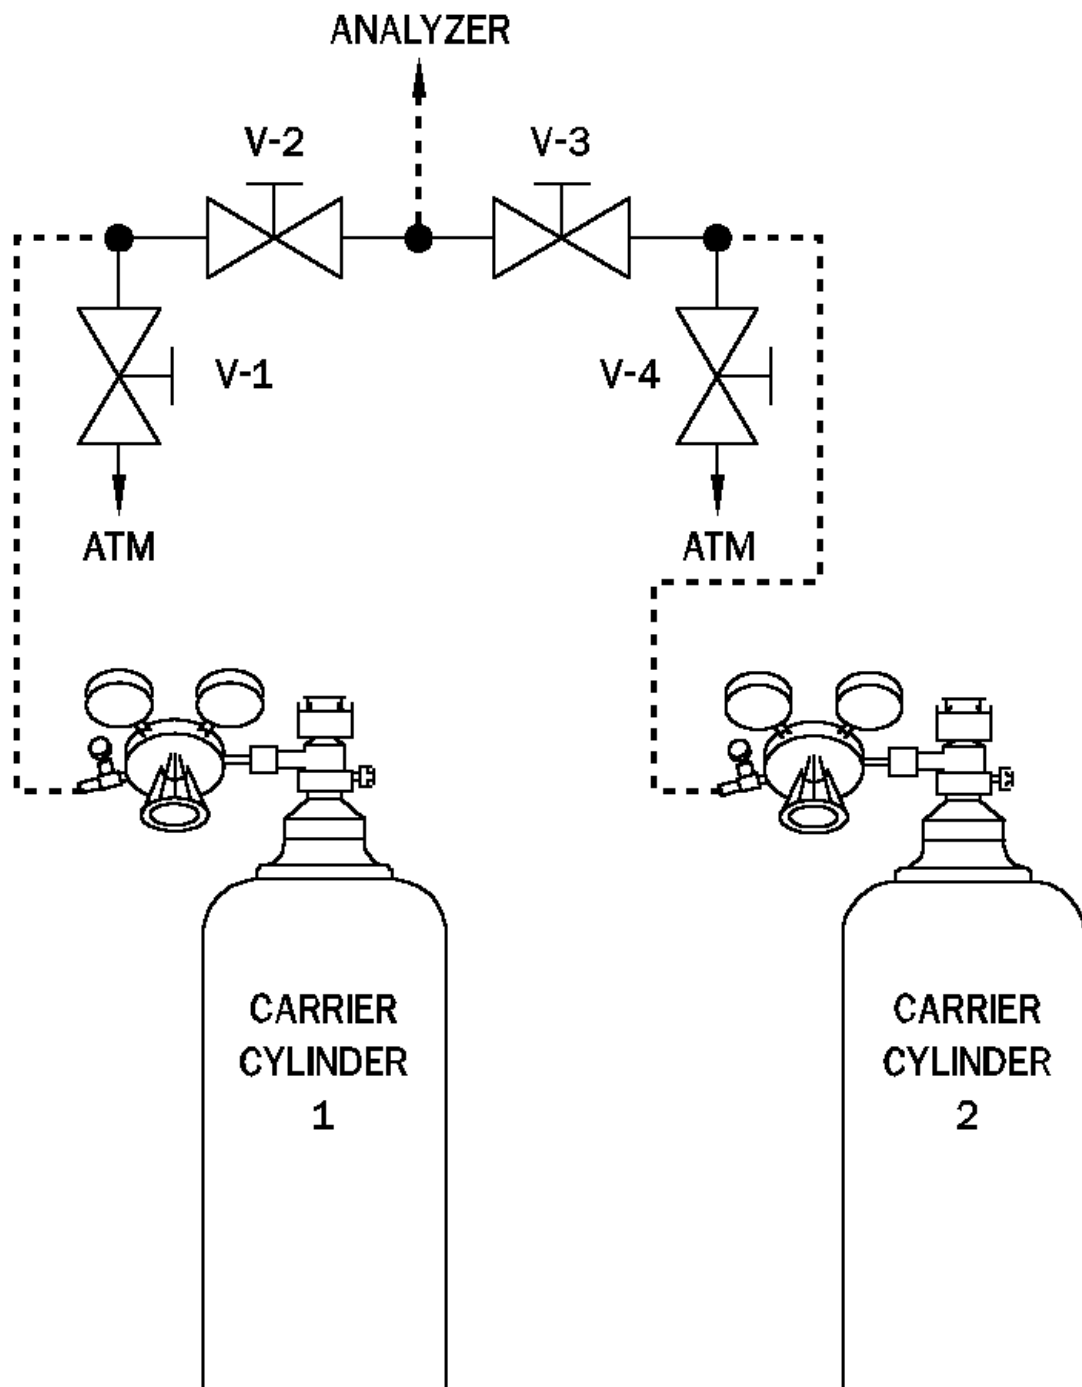

Figure B-1. Manifold for Two Carrier Gas Bottles to GC System
1. Install manifold as shown in Figure B-1. Close all valves and tighten all fittings. Run tubing to Analyzer, but do not connect.
7. Repeat steps (4) and (5) two more times to purge the line to V-2.
8. Purge the line to V-3 by repeating steps (2) through (6); but this time, use bleed valve V-4 and Carrier Cylinder 2.
11. Repeat steps (8) and (9) two more times to purge line to Analyzer.